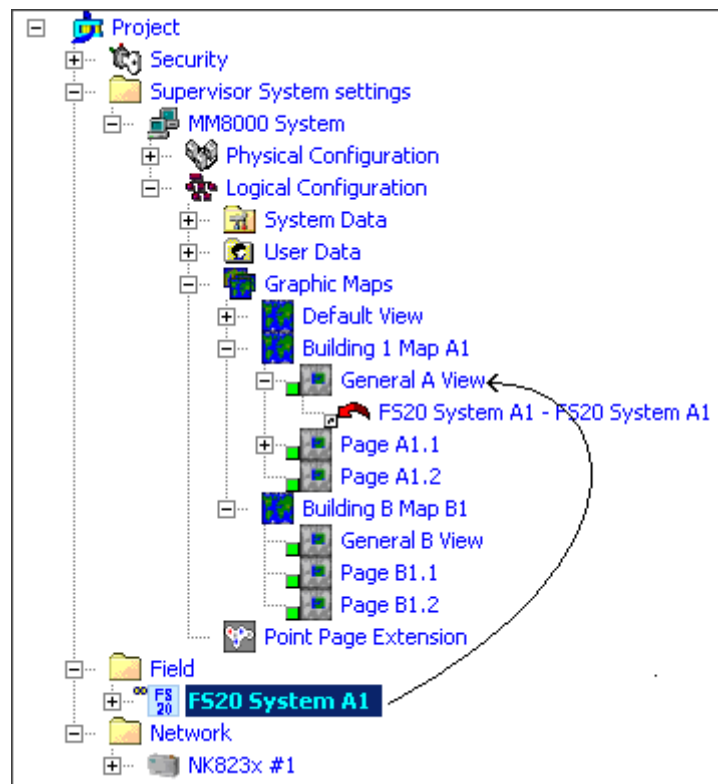

Fig. 32 Setting a subtree default page
4. Drag and drop the subtree node on the page node (see Fig. 32).